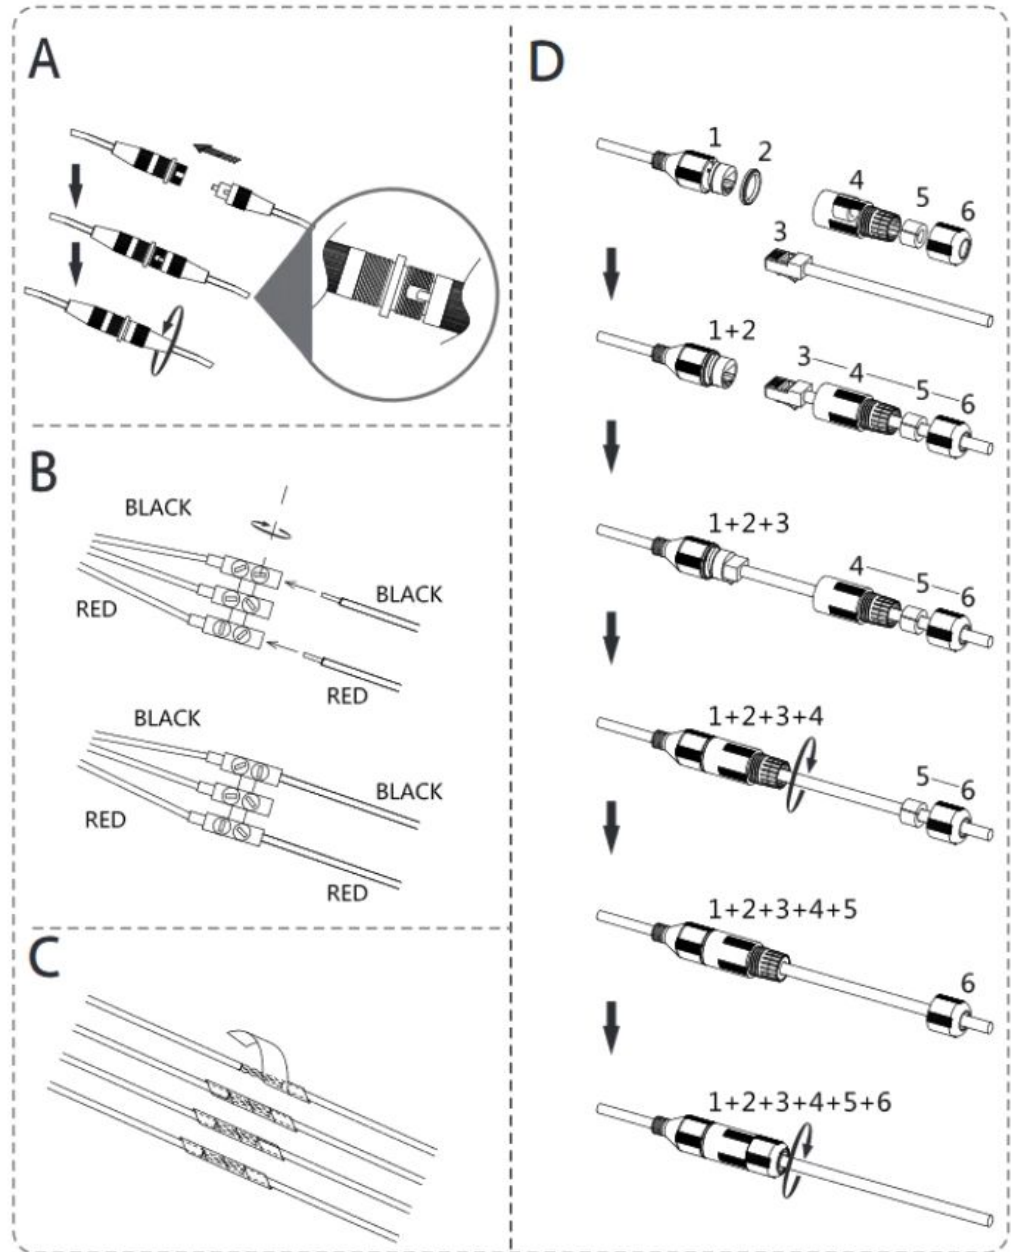

Figure 2-6
**Step 6** It is recommended to waterproof any outdoor cabling. See Figure 2-6.